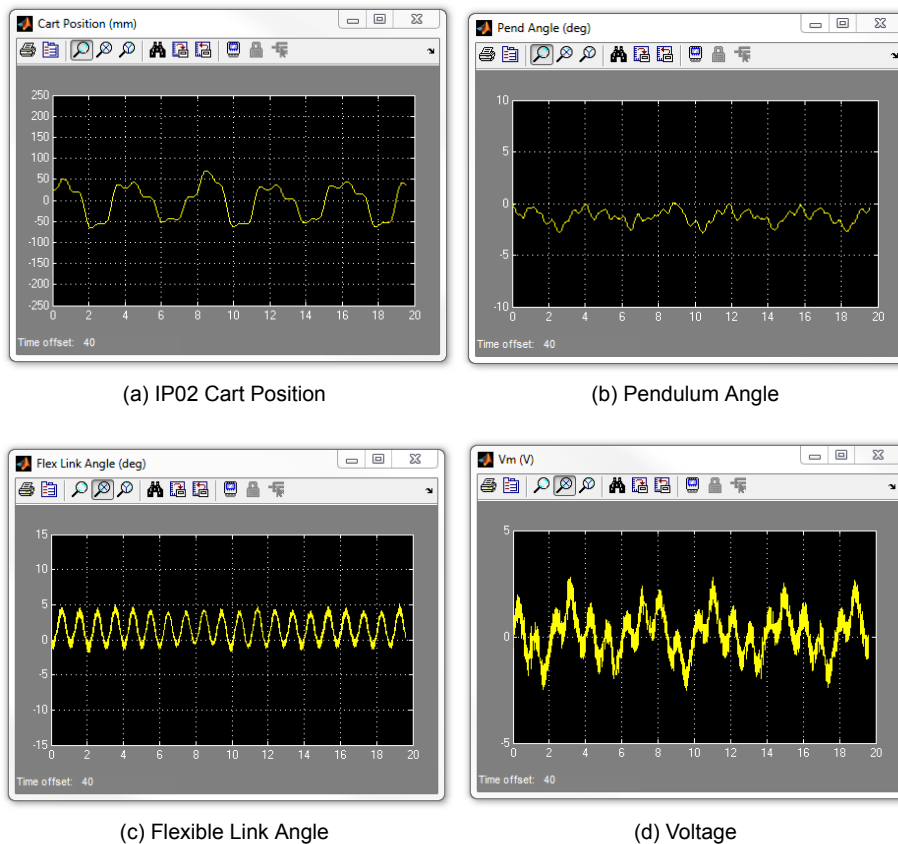

Figure 3.5: Typical response when balancing the FLEXPEN system
7. Once the controller is running, slowly raise the pendulums counter-clockwise (CCW) to their upright vertical position. You should feel the motor voltage kick-in when it is within the range where the balance control engages. The scopes should be displaying responses similar to Figure 3.5.